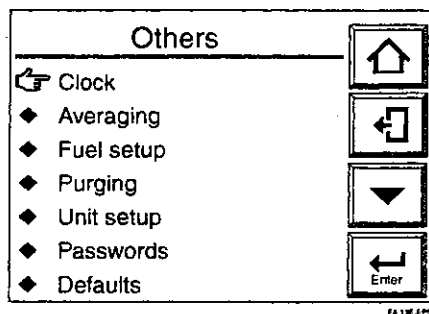

Figure 8.13 Other Settings
- p. 8-16, Section 8.6.1, "Setting the Date-and-Time": Added Item in Figure 8.13.